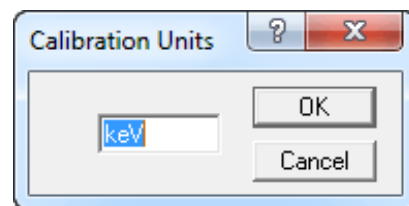

Fig. 58. Enter the Calibration Units.
- After the second peak value is entered, the program will ask for up to four characters for the units (see Fig. 58).